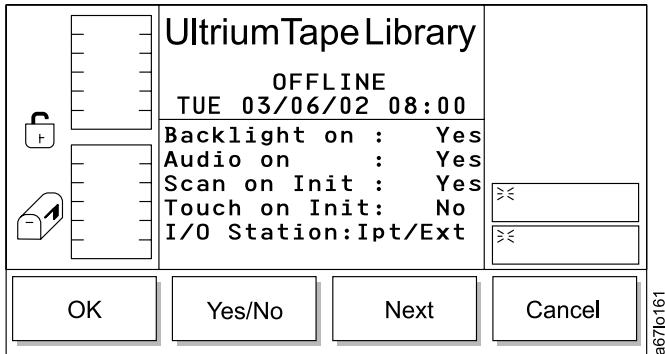

Figure 151. Config Dialog
- If **Config** is selected, the Config Dialog displays (see Figure 151 on page 128).